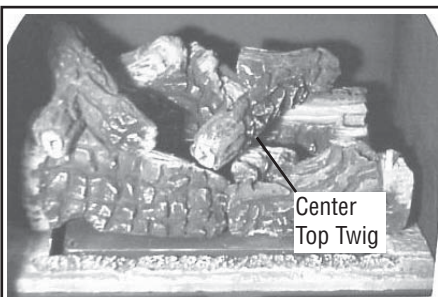

Figure 26
7. Install the center top twig onto the corresponding pin on the rear log and align it with the indentation on front left log as shown in Figure 26.